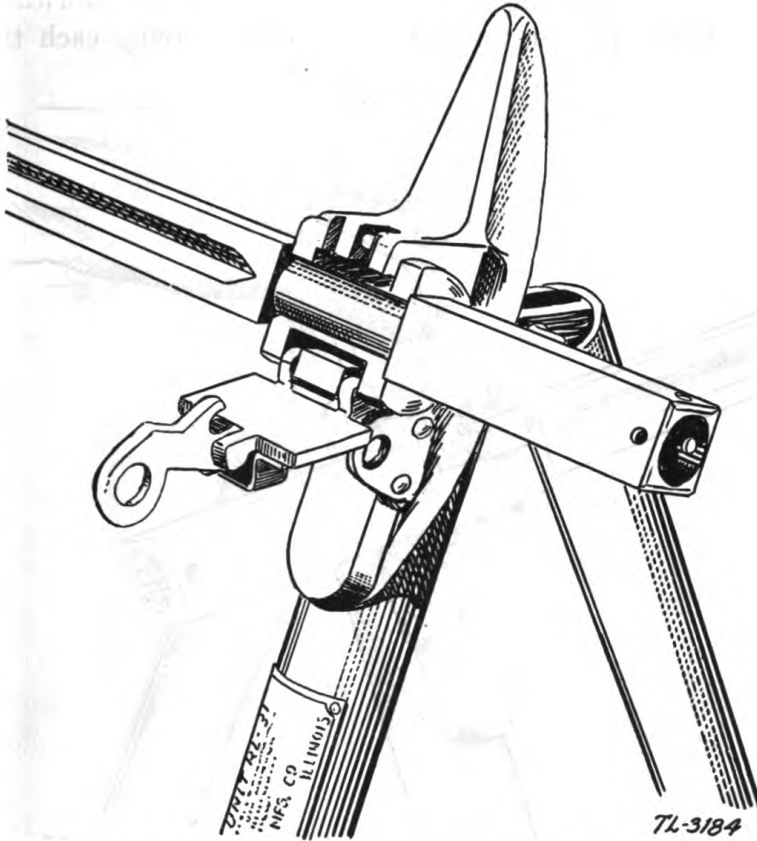
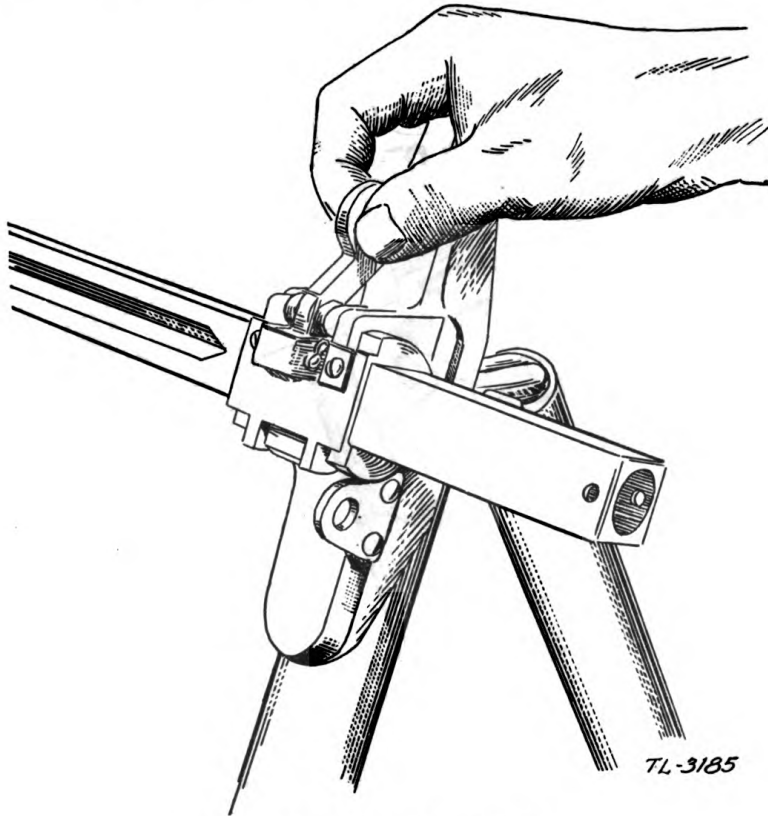

FIGURE 5.—Close-up of one of the axle bearings of reel unit RL-31, with hinged bearing cap open and axle in place.
FIGURE 6.—Axle locked in position.
b. Mounting.—To mount the axle, first open the hinged latches of the bearings by pulling up on the small finger rings on the top. Place the round sections of the axle evenly in the bearings, as indicated in figure 5, and fold the caps up, as in figure 6. Always keep the bearing surfaces clean and shiny by wiping them with a rag.